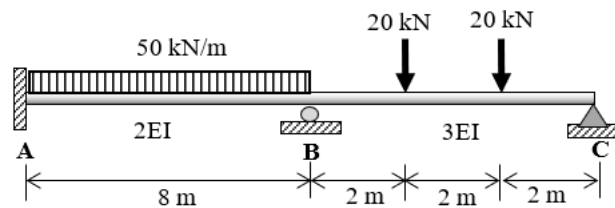

Figure B1(c) / Rajah B1 (c)
- i. Calculate the values of slope at support of the beam in Figure B1 (c).
- ii. Calculate the value of final moment of the beam in Figure B1 (c).